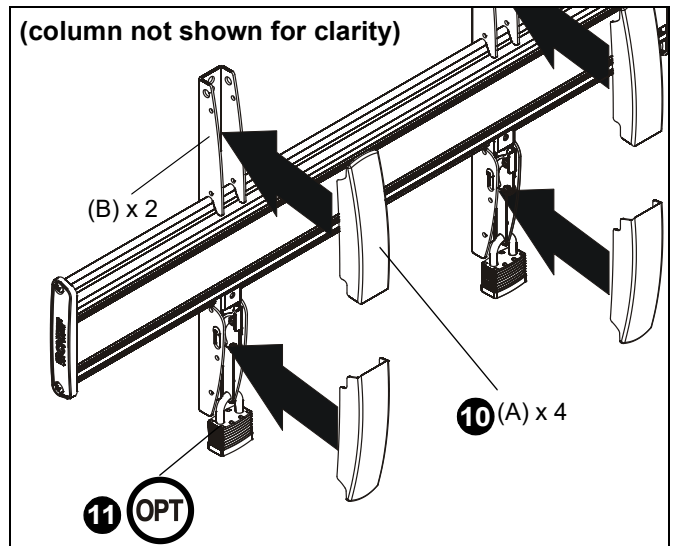

Figure 13
10. Snap four upright covers (A) onto uprights. (See Figure 13)
- NOTE:** Tabs on inside of covers (A) will snap directly into holes on uprights to ensure a secure connection.
11. (Optional) Use padlocks (not provided) to secure uprights to head assembly. (See Figure 13)